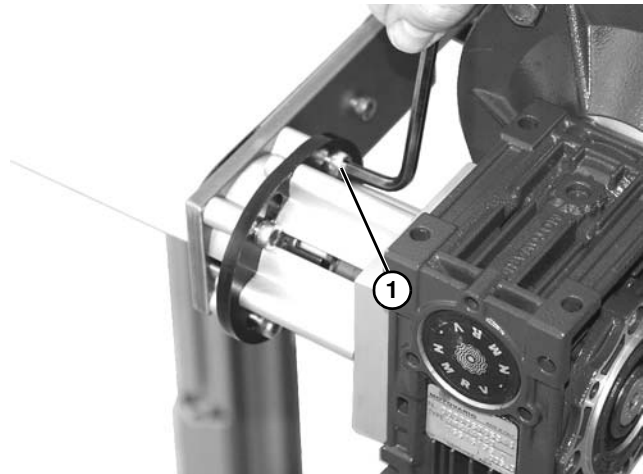

Figure 12
2. Loosen four screws (Figure 12, item 1).